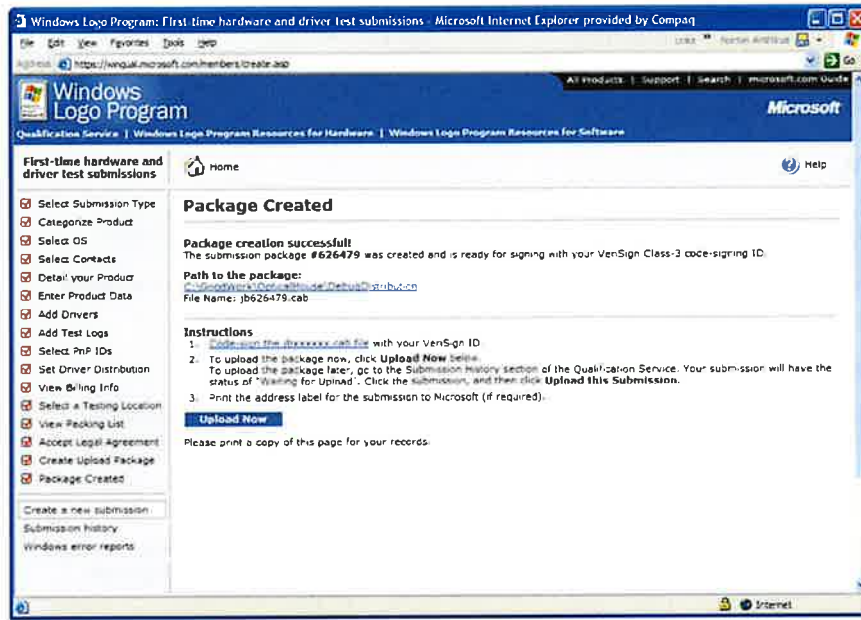

Figure 15-27. Ready to sign and submit.
- Ta-da! (See Figure 15-27). You're done. You can digitally sign your submission package and upload it to WHQL. This is where I had to stop. Not only did I have a submission package with fatal omissions in it, but also I didn't have (and didn't want to go to the considerable trouble of obtaining) a VeriSign ID. If I get much more stubborn and independent, I'll have to move to a cabin in Idaho and use the Internet with a dial-up modem the way our pioneer forebears did.